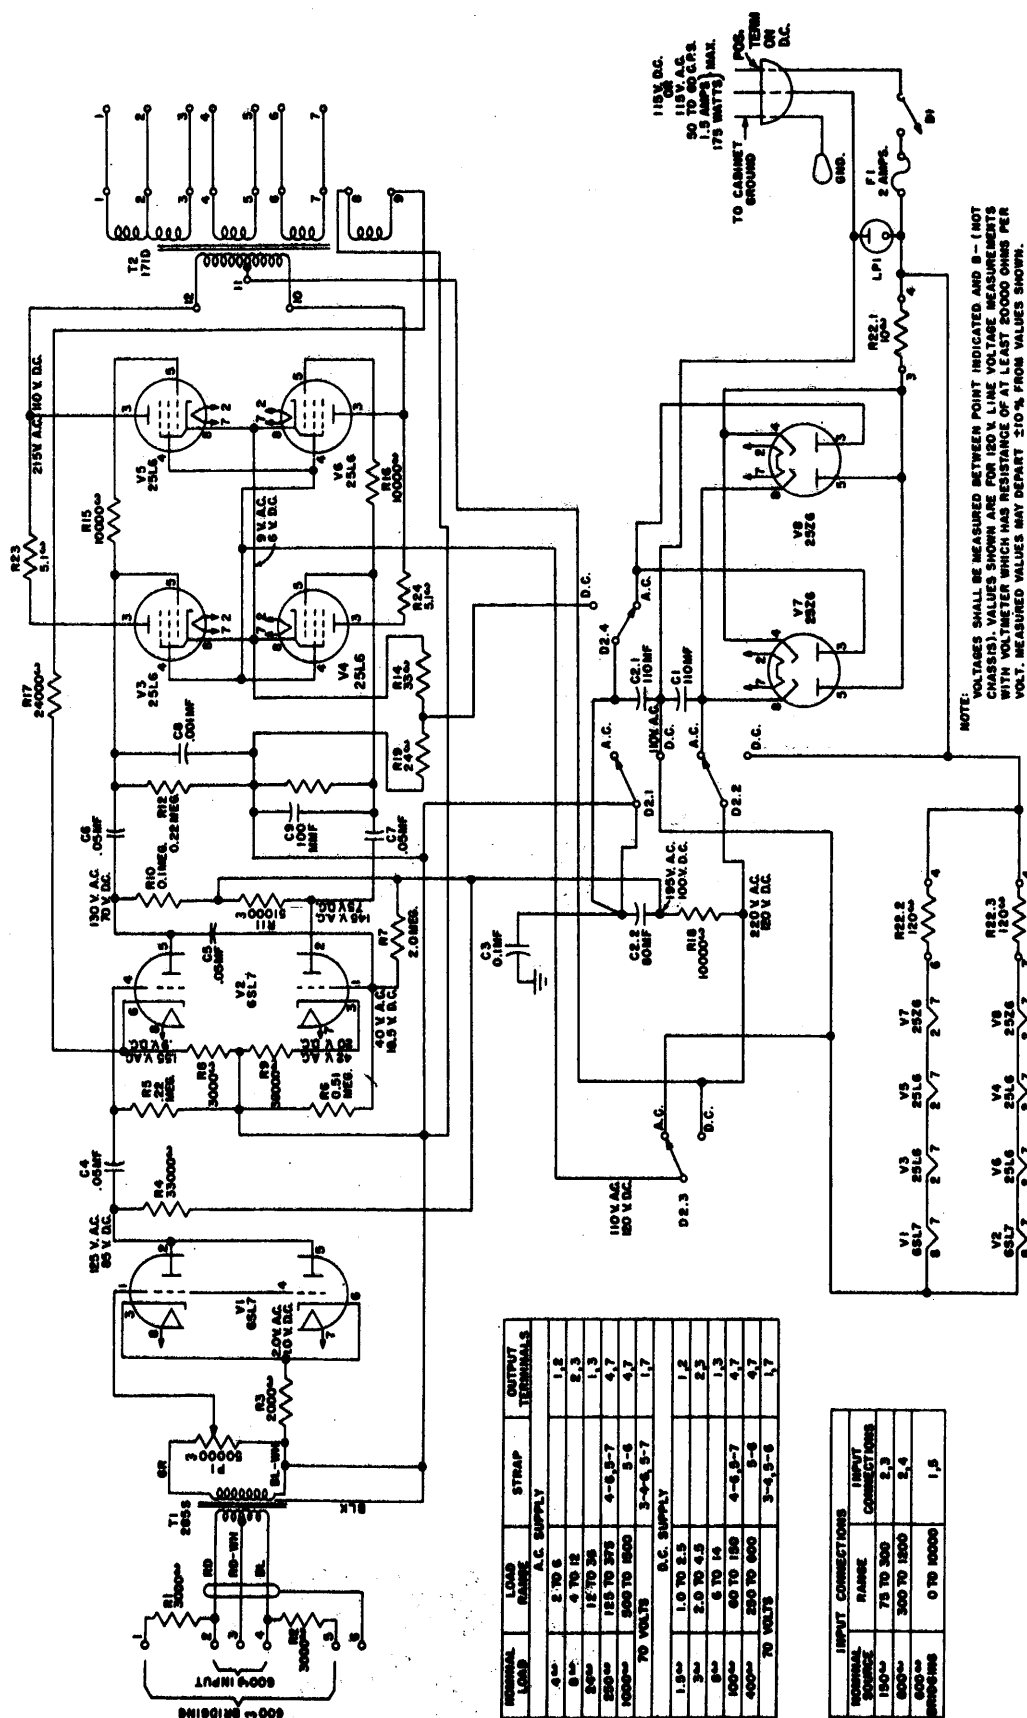

Fig. 5 — 140A Amplifier Schematic
2.16 When the amplifier is in trouble and the cause is not due to burned out or otherwise defective tubes, the amplifier should be checked (with the power cord plug removed from the supply receptacle) for loose connections or broken wires. Fig. 4 shows a wiring diagram of the 140A Amplifier, and Fig. 5 shows a schematic diagram of the 140A Amplifier.
2.17 If the tests mentioned above fail to reveal the trouble, it will be necessary to check the operating voltages in the amplifier. Fig. 5 shows these voltages in the amplifier. The values
2.18 The values of voltages on the various elements of the electron tubes may be measured at the tube sockets on the underside of the chassis. The terminal on the socket to which each element of the electron tube is connected is indicated by terminal number on the schematic drawing in Fig. 5. The standard numbering sequence for tube sockets is shown in the wiring diagram in Fig. 4.